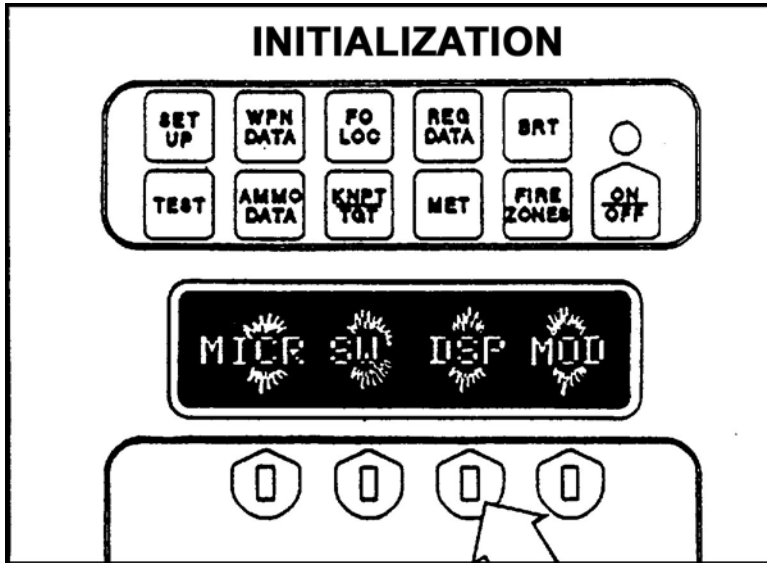

Figure 11. Third DISPLAY switch.
- b. Select the display test by pressing the third DISPLAY switch (Figure 11).